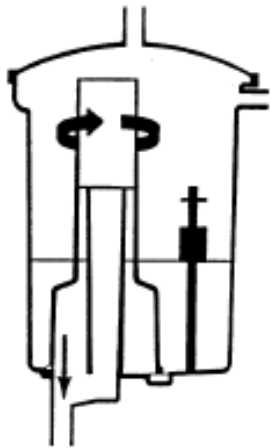

Figure 5.
4. Mix the milk inside the sampler for 20 seconds. To mix the milk, rotate the valve-handle loop downward and fully press the valve in, as shown in Figure 5. Air will enter the sampler and create a turbulence that will mix the milk.
The float level controls the rotor drive motor. When milk lifts the float, the rotor turns and each chamber dumps a measured amount of milk as it moves over the outlet port. This continues until the milk level lowers the float. See Figure 5.